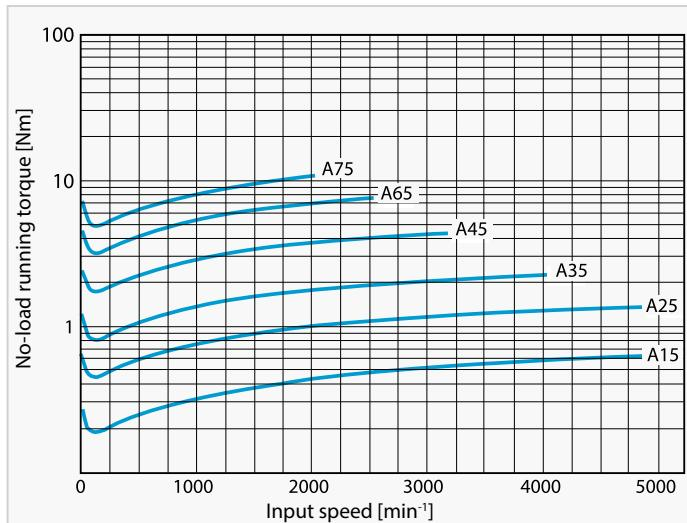
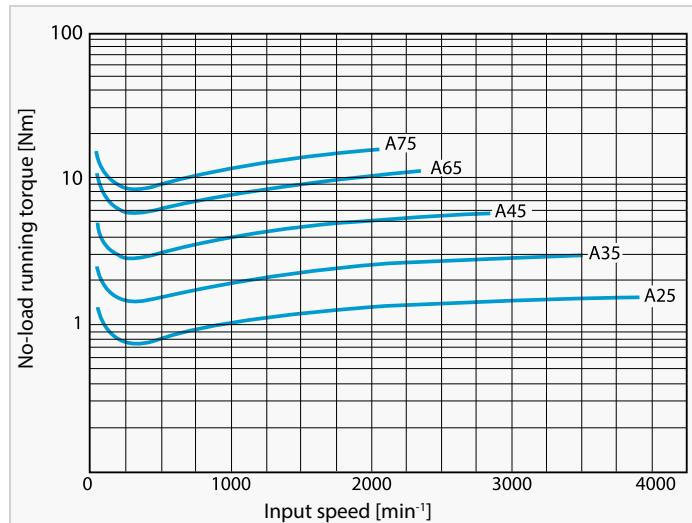

Fig. A1 Input side no-load running torque ($i = 59-119$)
Fig. A2 Input side no-load running torque ($i = 29$)
- Fig. A1 and Fig. A2 show the average no-load running torques after gearbox is run in (not new condition)